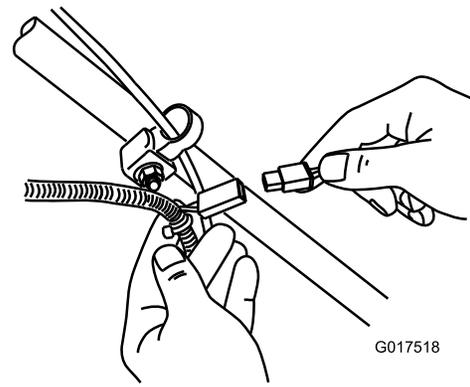

Figure 31
- Connect the charger to the wire harness located below the ignition key (Figure 31).